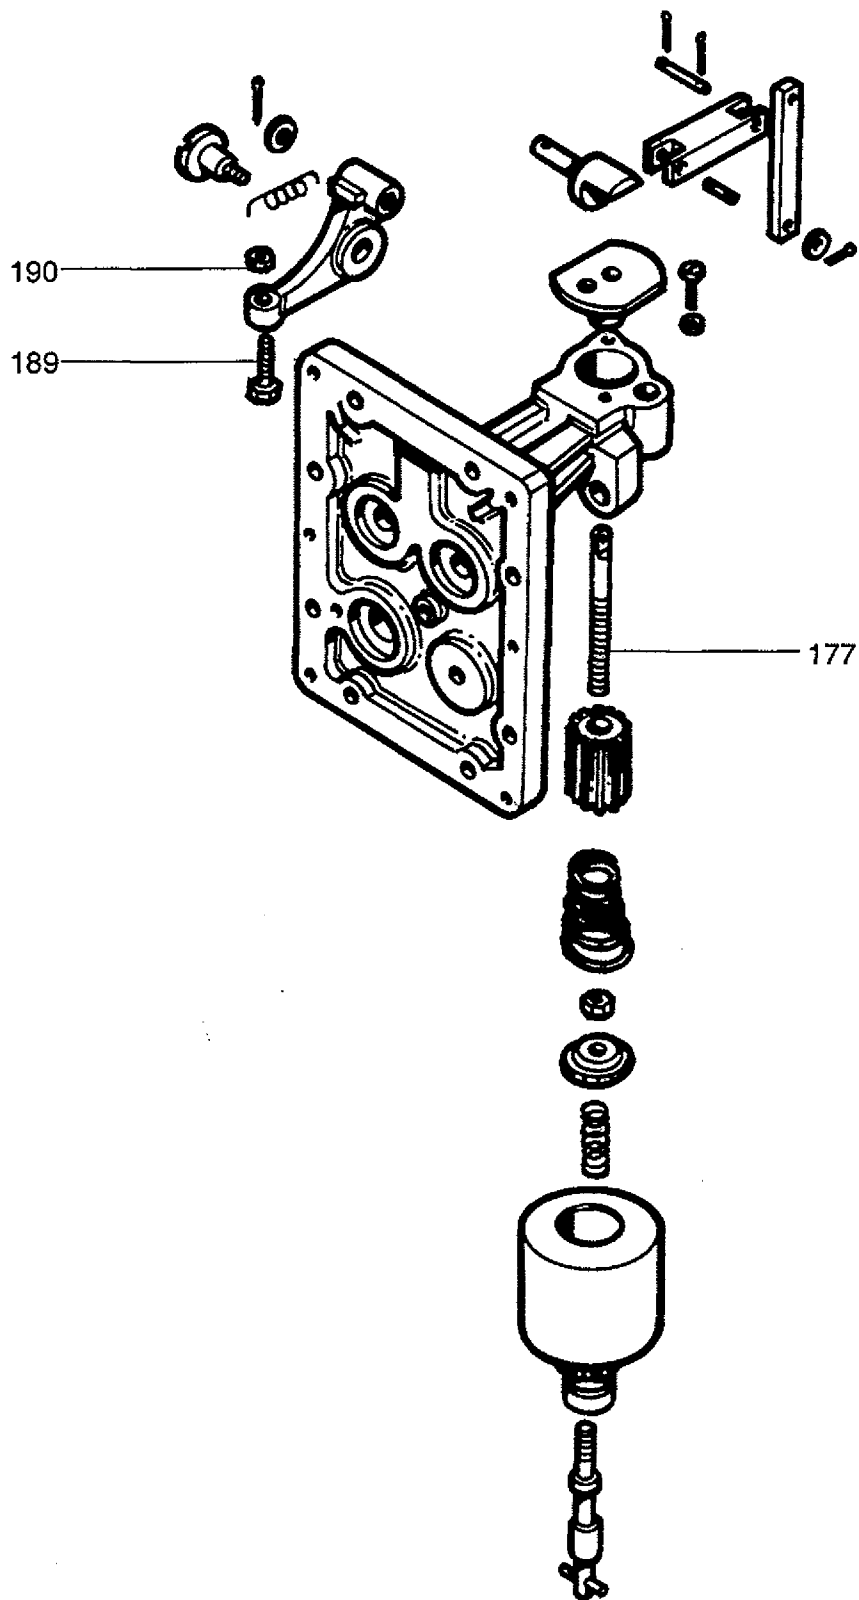

Fig. 42AA
Loosen the locknut (190) on the speed droop screw (189) and turn the screw (189) ccw to reduce droop. Turn the screw cw to increase droop. Tighten the locknut. (See Fig. 42AA)
The amount of speed change is not the same if the speeder screw (177) has a coarse thread (18 threads/inch) rather than the fine thread (32 threads/inch) which is normally used (See Fig. 42AA **SPEED DROOP ASSEMBLY Parts Illustration for Dial Governor (1)**).